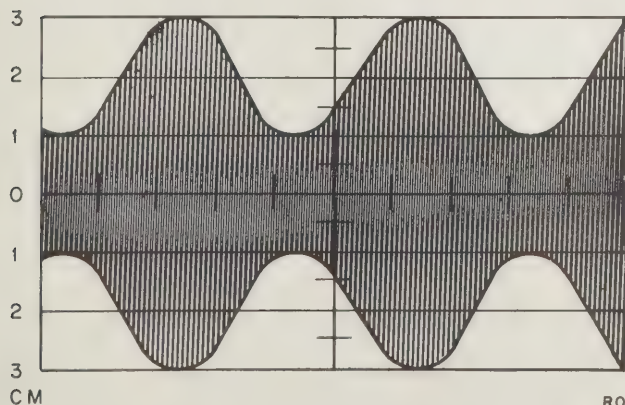

Figure 4-3. Waveform for 50% Modulation
h. Adjust MODULATION SELECTOR control until maximum deflection is exactly 6 cm high (see figure 4-3). Modulation meter should be reading between 45 and 55%.